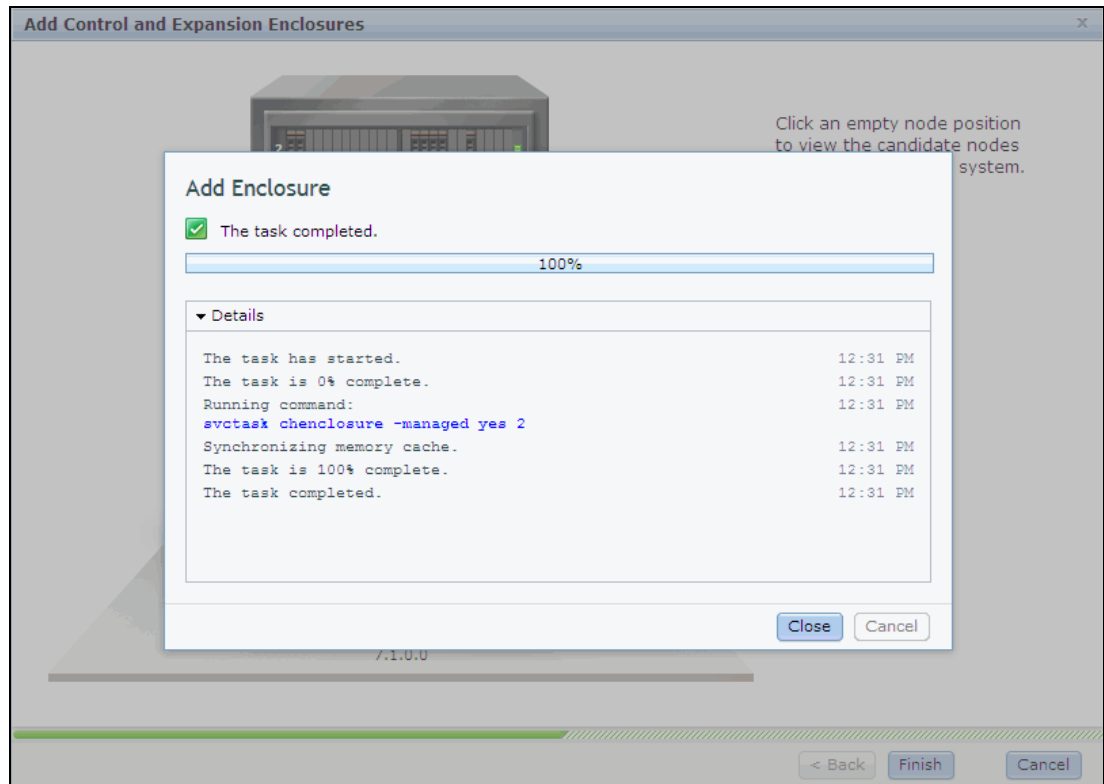

Figure 2-37 Add control enclosure task completion
4. To add the enclosure, select the new enclosure and click **Finish**. The task to add the enclosure completes, as shown in Figure 2-37 on page 62.